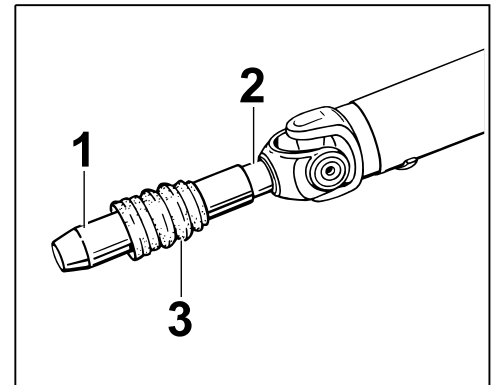

Figure 6
- 3.1.1 **9255 - Assembly sleeve** must be pushed over the splined shaft profile of the cardan shaft (⇒ *Figure 6*). Then apply a light coating of Vaseline.